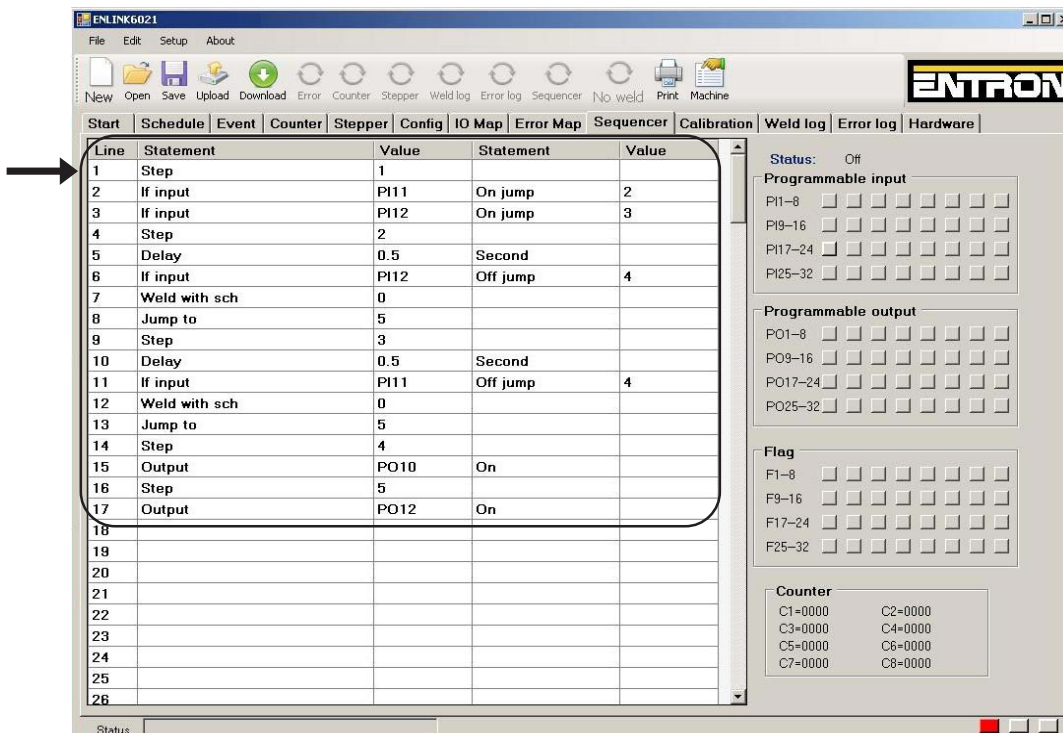

Figure 9-55. Sequencer page
- D. Enter SEQUENCER program on Sequencer page as shown in Figure 9-55.